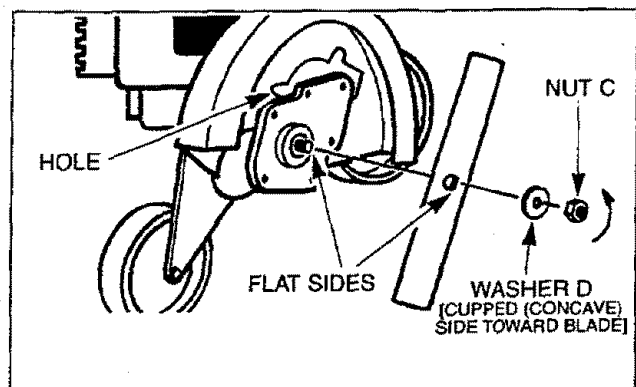

Figure 3
BLADE ASSEMBLY (Fig. 3)
- Place the blade on the blade shaft; match the flat area of the blade opening with the flat side of the shaft. Figure 3.